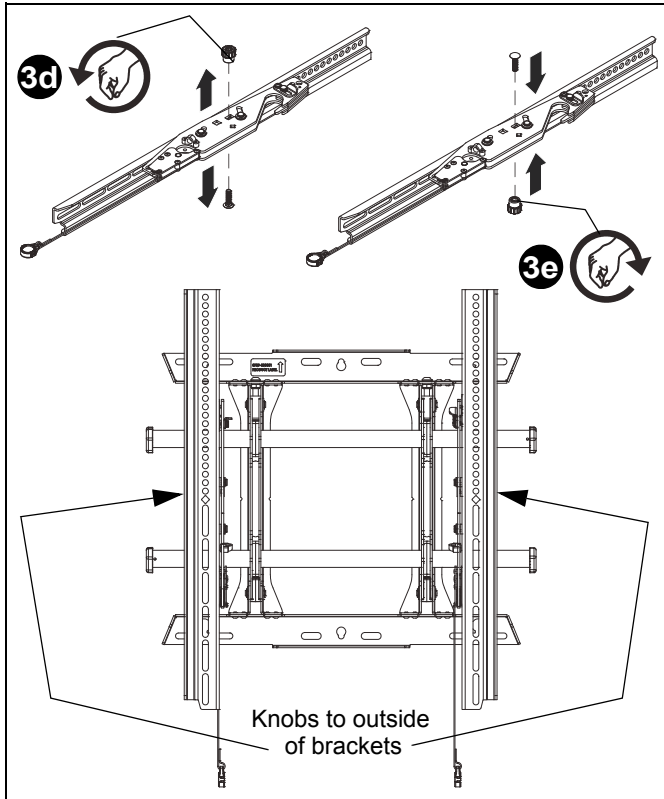

Figure 8
3. If necessary, the interface bracket knobs may be switched to allow the brackets to be reversed. (See Figure 8)